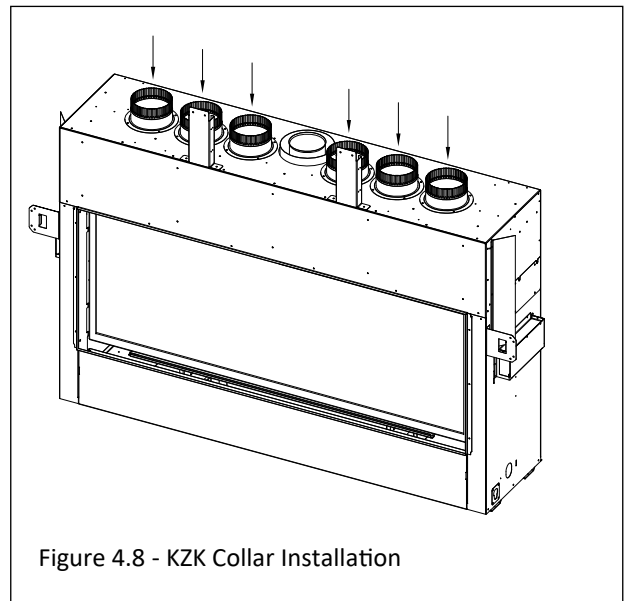

Figure 4.8 - KZK Collar Installation
2. Install the KZK collars that were provided with KZK-062 as shown in Figure 4.8. Reuse the sheet metal screws from the previous step.